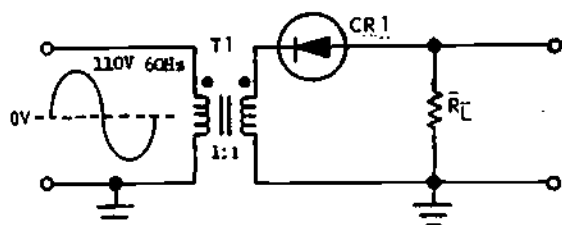

Figure 34-1. Half-Wave Rectifier
7. Calculate the peak output voltage for the circuit shown in figure 34-1.
12. Trace the current path through the circuit in figure 34-1 for the negative alternation of the AC input.
13. Draw the output voltage waveform with voltage levels for the circuit in figure 34-1.